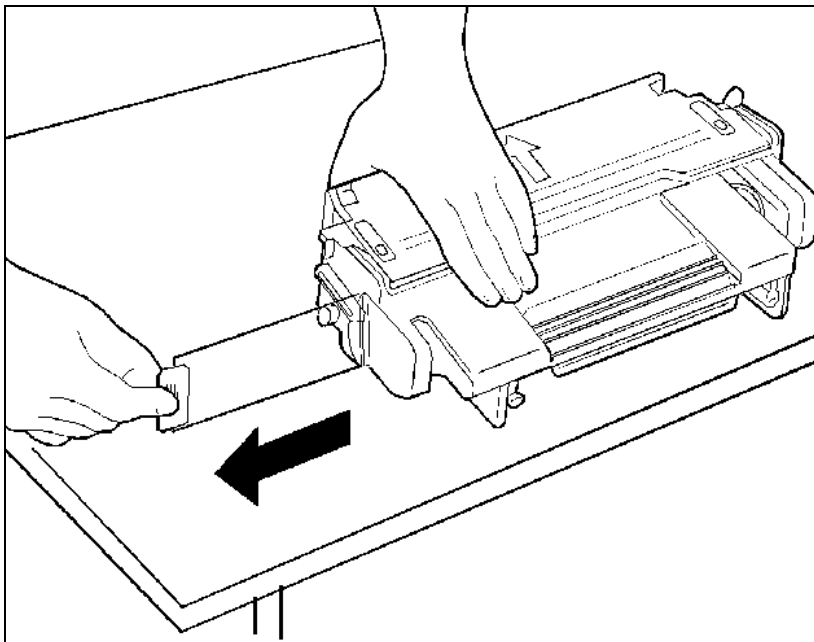

Figure 4-3 **Removing the Toner Cartridge Sealing Tape**
- 3 Remove the sealing tape by firmly grasping the tab on the right side of the toner cartridge and pulling it straight out the side of the cartridge. (See Figure 4-3.)